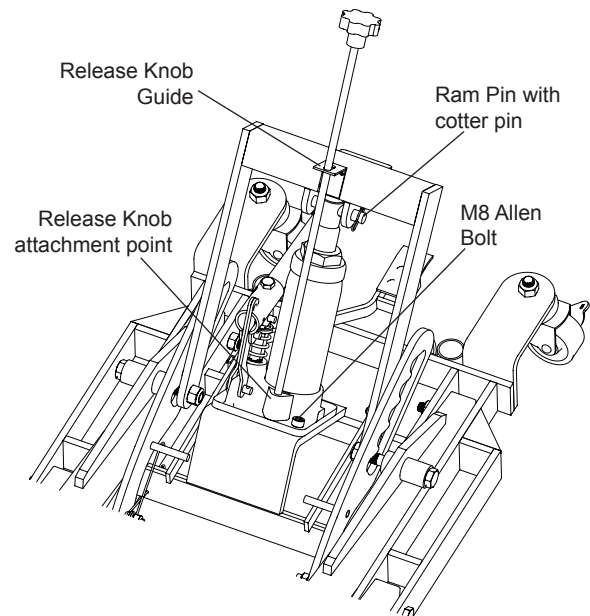

Figure 2 - Hydraulic Unit assembly
1. Install Hydraulic Unit on receiver and secure with provided M8 x 1.25 bolts (ref. Figure 2).
5. Install Positioning Handle into frame and secure using the provided pins (2).